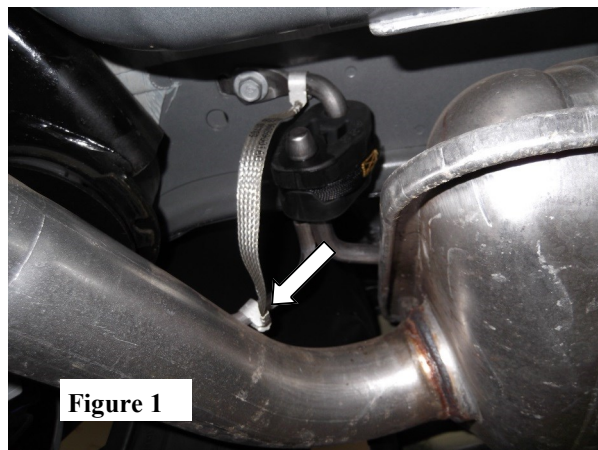

Figure 1
1. Unclip and remove the ground strap located on the passenger side rear muffler. (See Fig. 1)